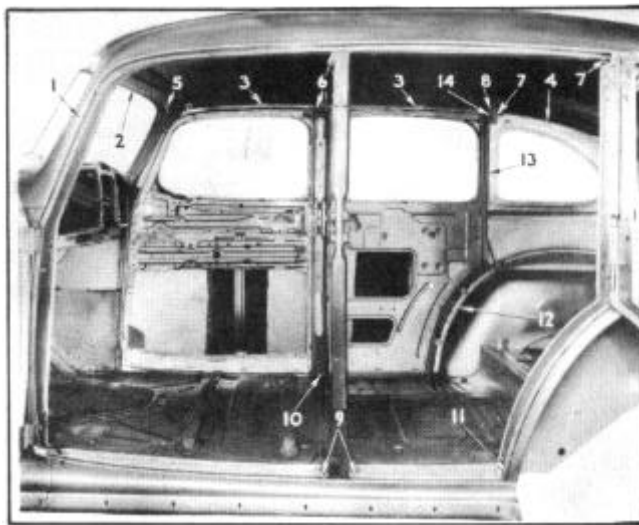

Figure 4--Four Door Sedan - Inside View
It is welded to the front end panel at (1), Figure 4; to the body header at (2); to the body header along (3) and to the quarter panel along (4).
The body header is welded to the front pillar at (5), Figure 4. It is welded and riveted to the lock pillar at (6); welded and riveted to the rear pillar at (7) and to the quarter panel at (8)
The lock pillar is welded to the underbody panel at (9), Figure 4, and is riveted to the underbody panel at (10). On two door sedan and coupe models the lock pillar is welded to the quarter panel.
The rear pillar is welded to the underbody panel at (11), Figure 4; to the wheelhouse at (12); to the quarter panel at (13) and to body header (14).